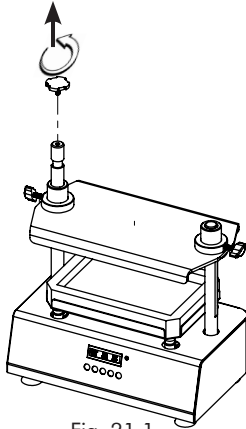

Fig. 21.1
- Remove the stopper by rotating counterclockwise as shown in the fig. 21.1